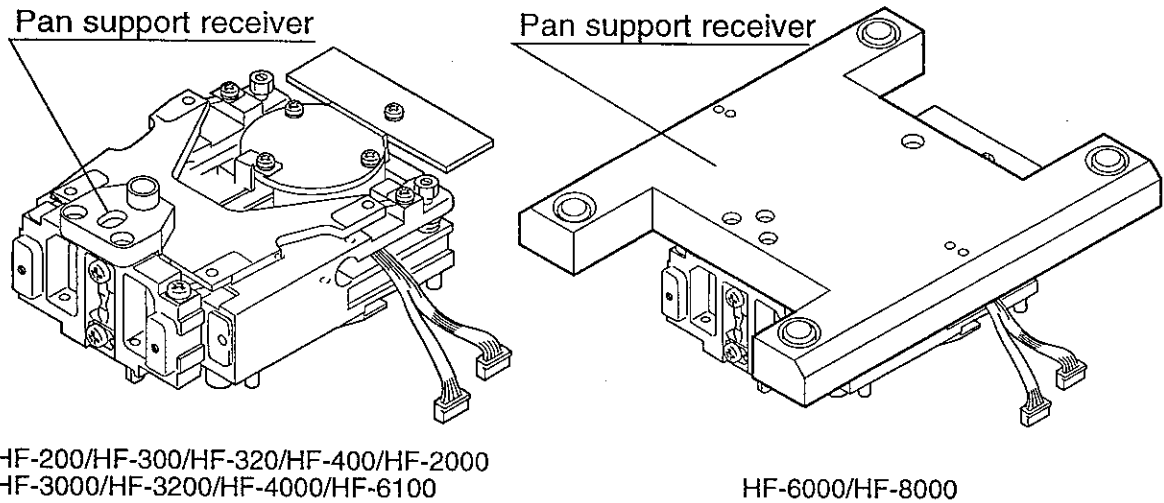

Fig 37
Step 15. Install the pan support receiver (Fig 37)